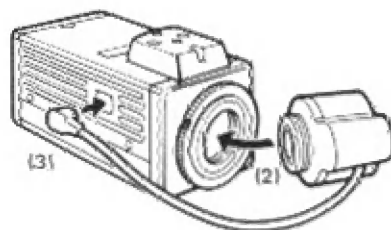

Fig.2
- (2) Mount the lens by turning it clockwise onto the lens mount of the camera.
- (3) Connect the lens cable to the Auto Iris Lens connector on the side of the camera. (Fig. 2)